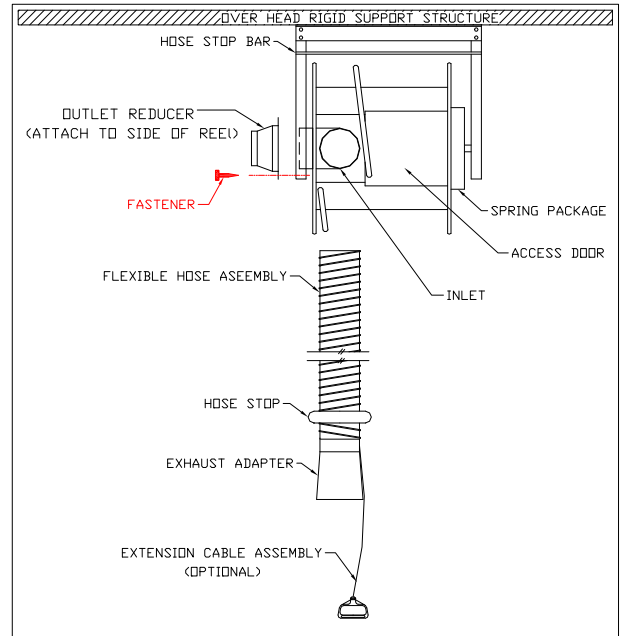

FIG2B - REEL DUCTED TO REMOTE EXHAUST FAN
- For hose reel ducted to remote fan, fasten the provided outlet reducer to the reel through the flange/tabs. Reference FIG2B.